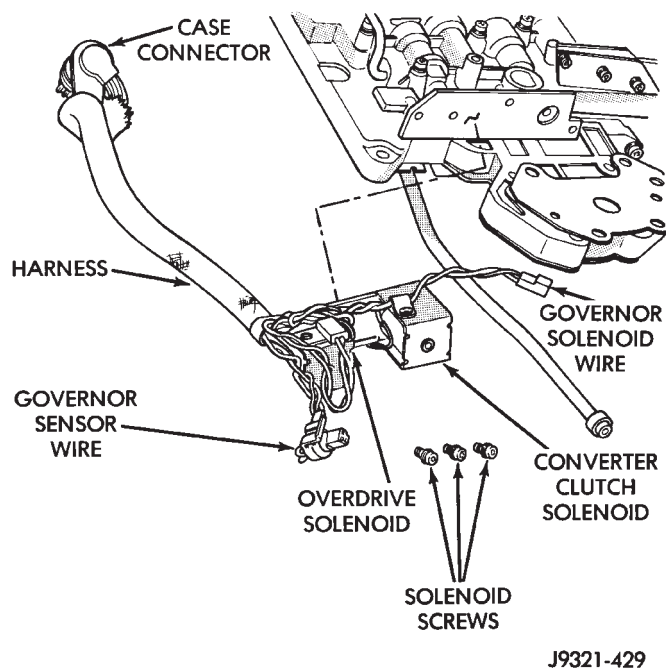

Fig. 98 Overdrive/Converter Clutch Solenoid Assembly Removal
(10) Remove solenoid and harness assembly from valve body (Fig. 98).